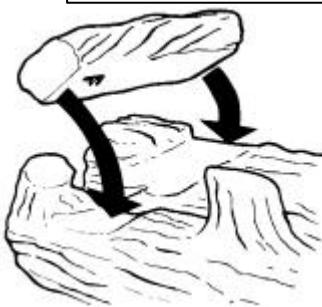

Fig. 16 Cross Log Location
10.2.3 Place the cross log in position (see Fig.16). The front of this log is indicated by the letter "F" embossed on its underside. Make sure that the front of the log is seated inside the hollow in the front log and is not raised in front of it.